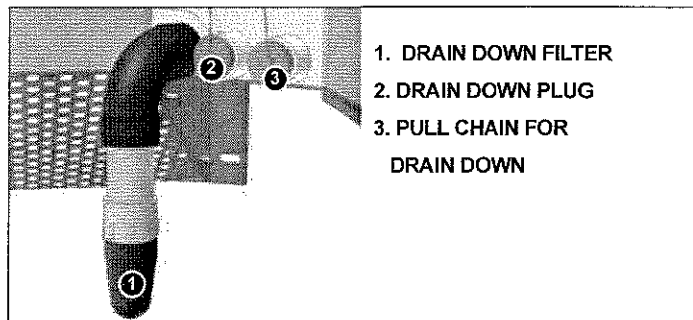

Figure 7: The Drain Down Filter
- Next, insert the first of two (2) replacement **Media Bags**. Smooth the bag out with your hands to make sure that the bag extends snugly to the walls and corners of the Filter Module.
6. Use a screwdriver to unscrew the **Drain Down Filter** from the face of the Outlet Module (see Figure 7). **DO NOT DISCARD THIS PIECE.**